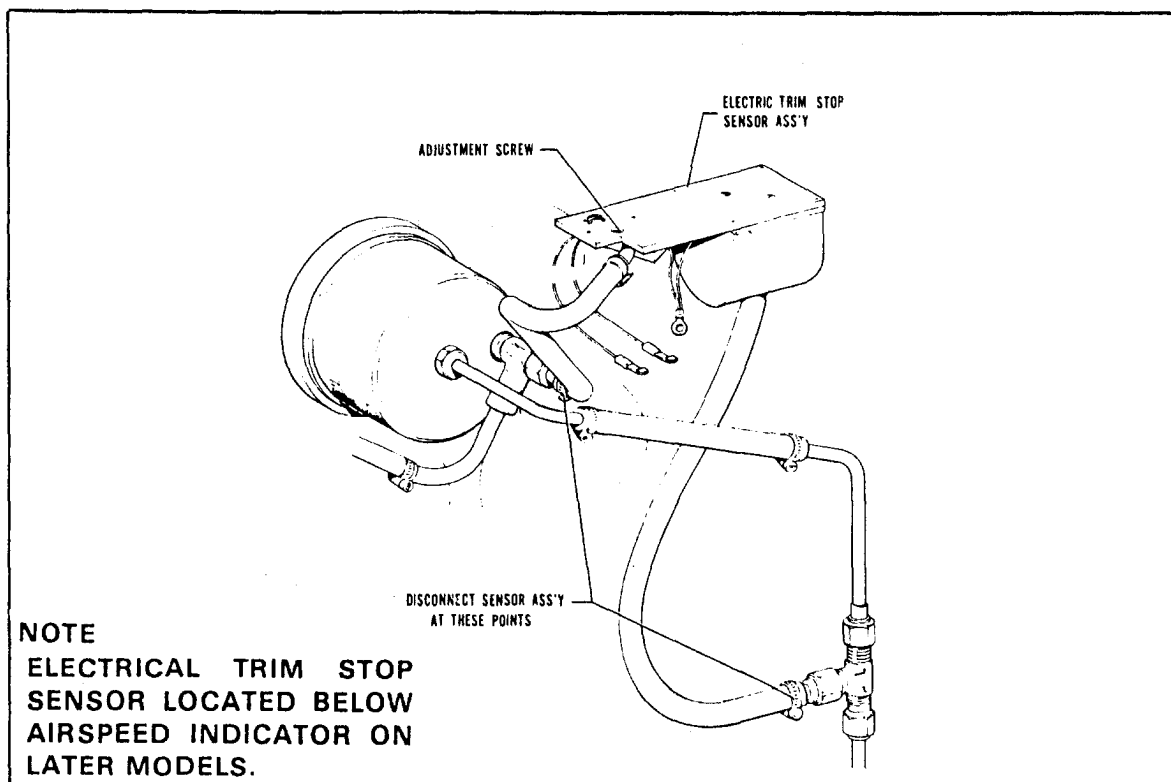

Figure 4-6. Electric Trim Stop Sensor Assembly
4. Per Figure 4-6 - adjustment screw on Stop Sensor Assembly is adjusted for proper airspeed limit.